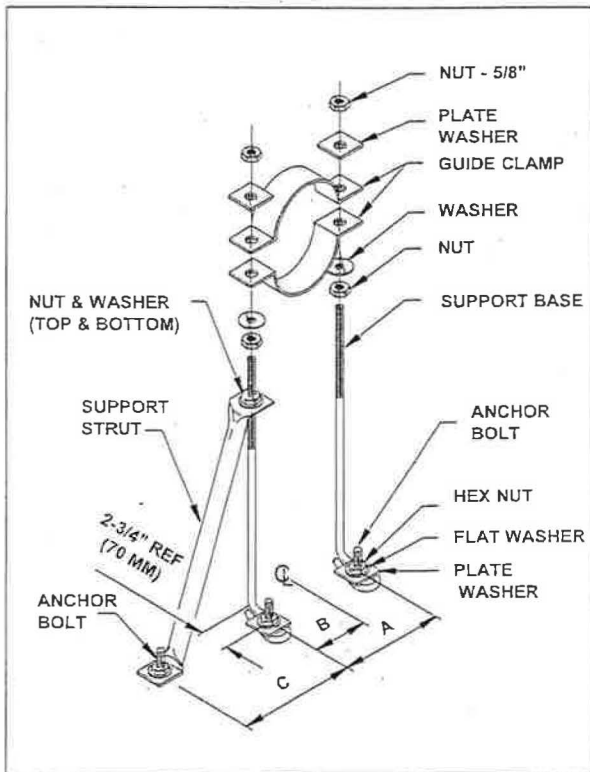
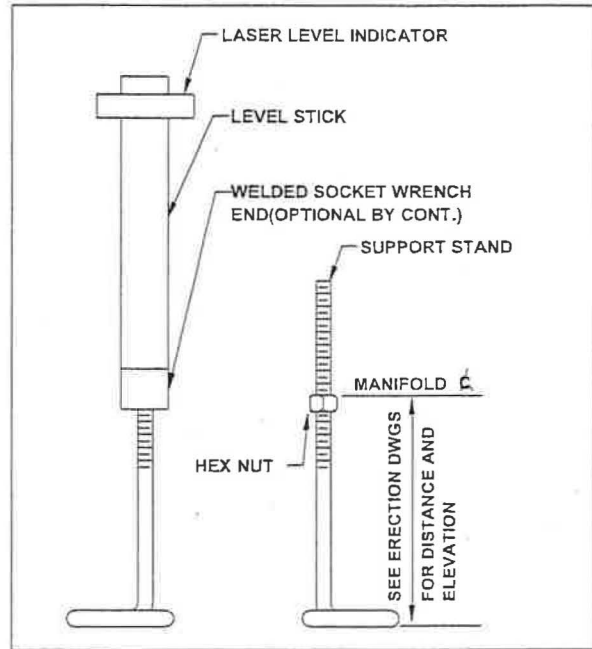

Figure 5
Figure 6
- Use a laser level system to bring the lower pipe clamp flange hex nuts to the proper elevation. The proper elevation will be the manifold centerline elevation as shown on the erection drawings (See Figure 6). Once the centerline elevation is set, install lower pipe clamps as shown in Figures 5, 7, and the erection drawings.
10. Install the upper half of the pipe clamp, plate washers and nuts. **Do not secure at this time.** See Figures 5, 8 and the erection drawings.